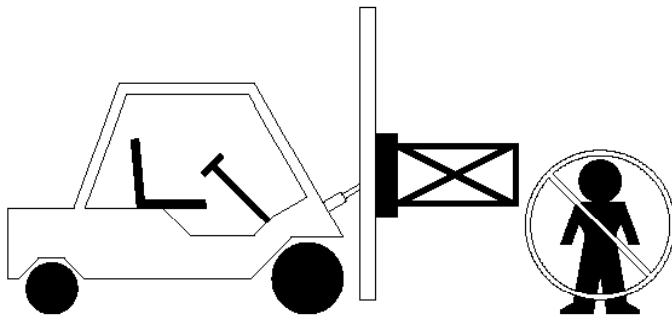

Figure 3-3
15. **Never** stand in front of or beside an attachment that is being operated. Never allow another person to approach an attachment that is being operated. (Figure 3-3)